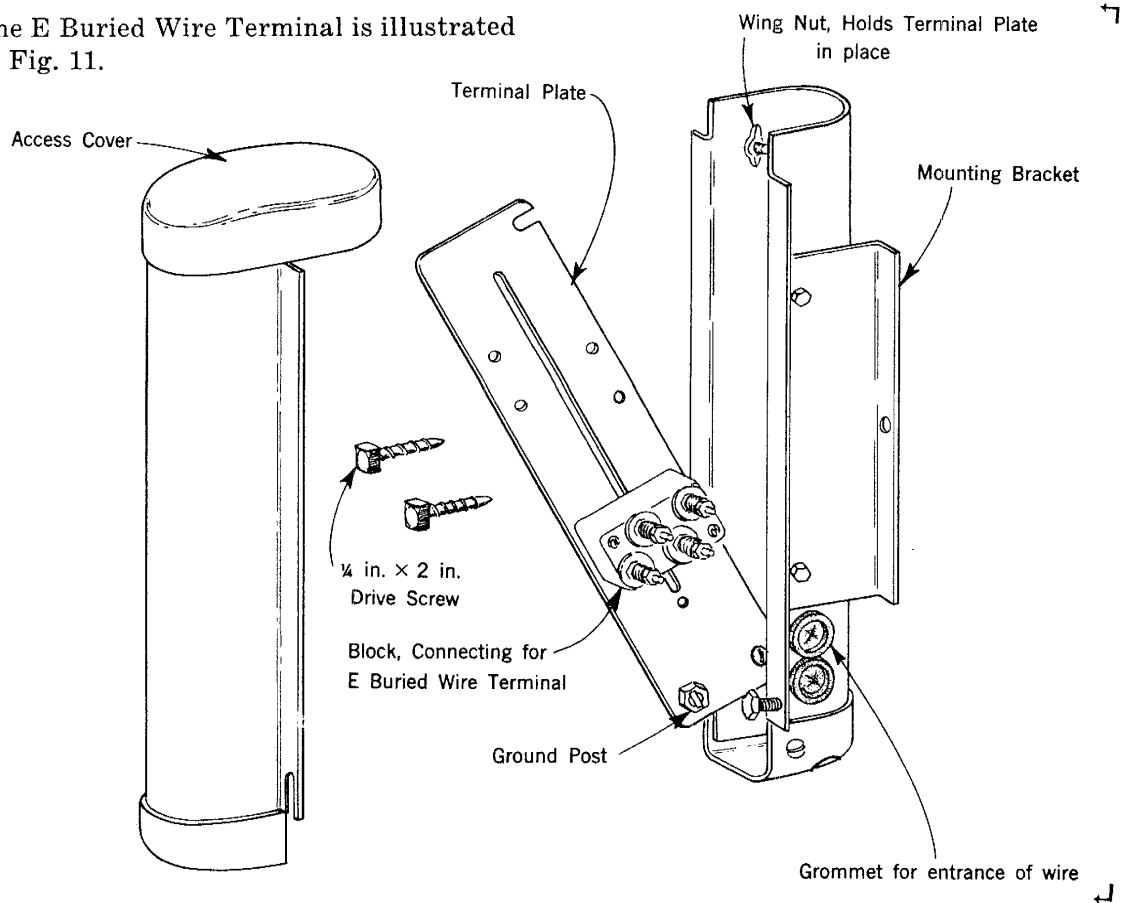

Fig. 11 — E Buried Wire Terminal
**3.01** The E Buried Wire Terminal is illustrated in Fig. 11.